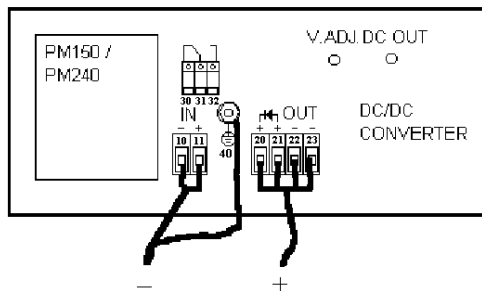

Figure 6. Output to case isolation voltage test.
- Connect your isolation tester between output and case. See *Figure 6*. Raise the voltage of the isolation tester from 0 to 4000V d.c. Check that the leakage current does not exceed 5μA. The voltage should not be applied for more than a
4. Connect your isolation tester between output and case. See *Figure 6*. Raise the voltage of the isolation tester from 0 to 2500V a.c. The voltage should not be applied for more than one (1) minute or the Y-capacitors might be damaged.